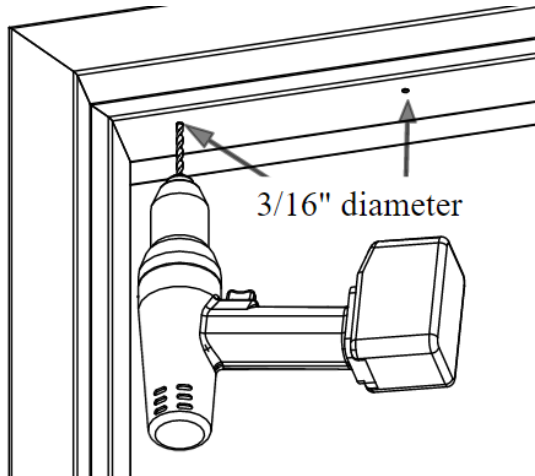

Figure 18. Drilling the Mounting Holes
1. DRILL two (2) 3/16" diameter mounting holes by 1-1/4" deep at bracket-mounting hole marks (see Figure 18, "Drilling the Mounting Holes").